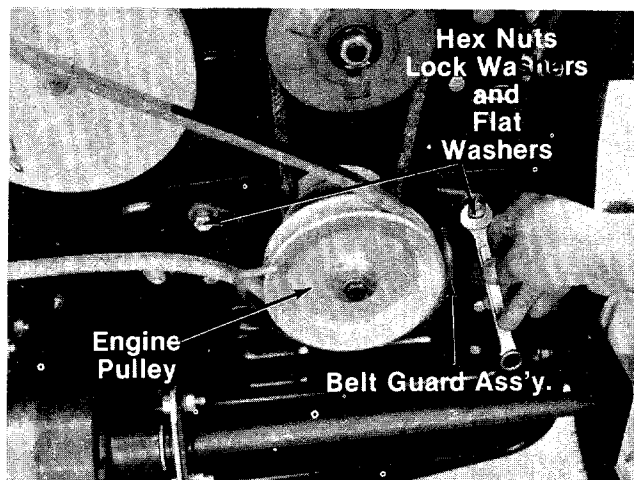

FIGURE 41.
2. Remove engine pulley belt guard assembly by removing two hex nuts, lock washers and flat washers as shown in figure 41. A 1/2" wrench is required.